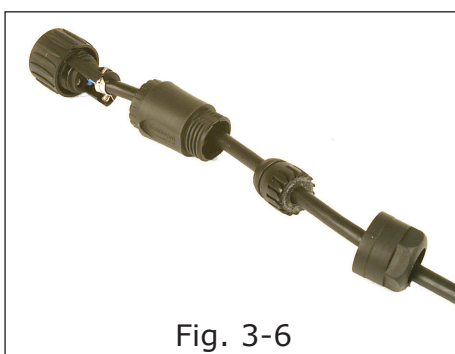

Fig. 3-6
- 7) The mains input cable connector is now ready for re-assembly and connection to the Power Supply Unit (Fig. 3-6). Re-assemble the mains input connector.